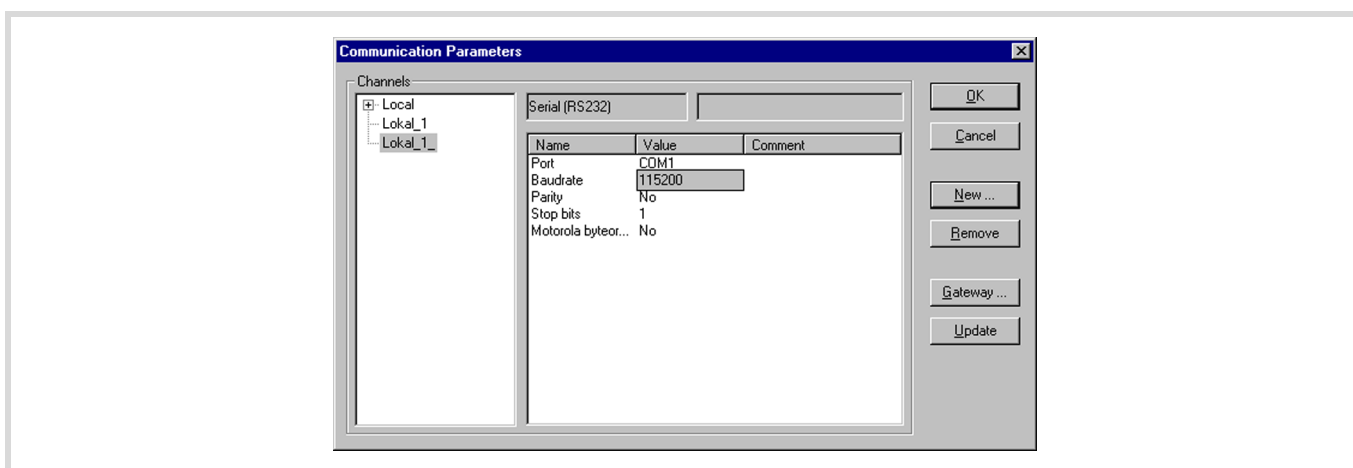

Figure 59: Select communication parameters
- Preselect the values indicated in Figure 59.